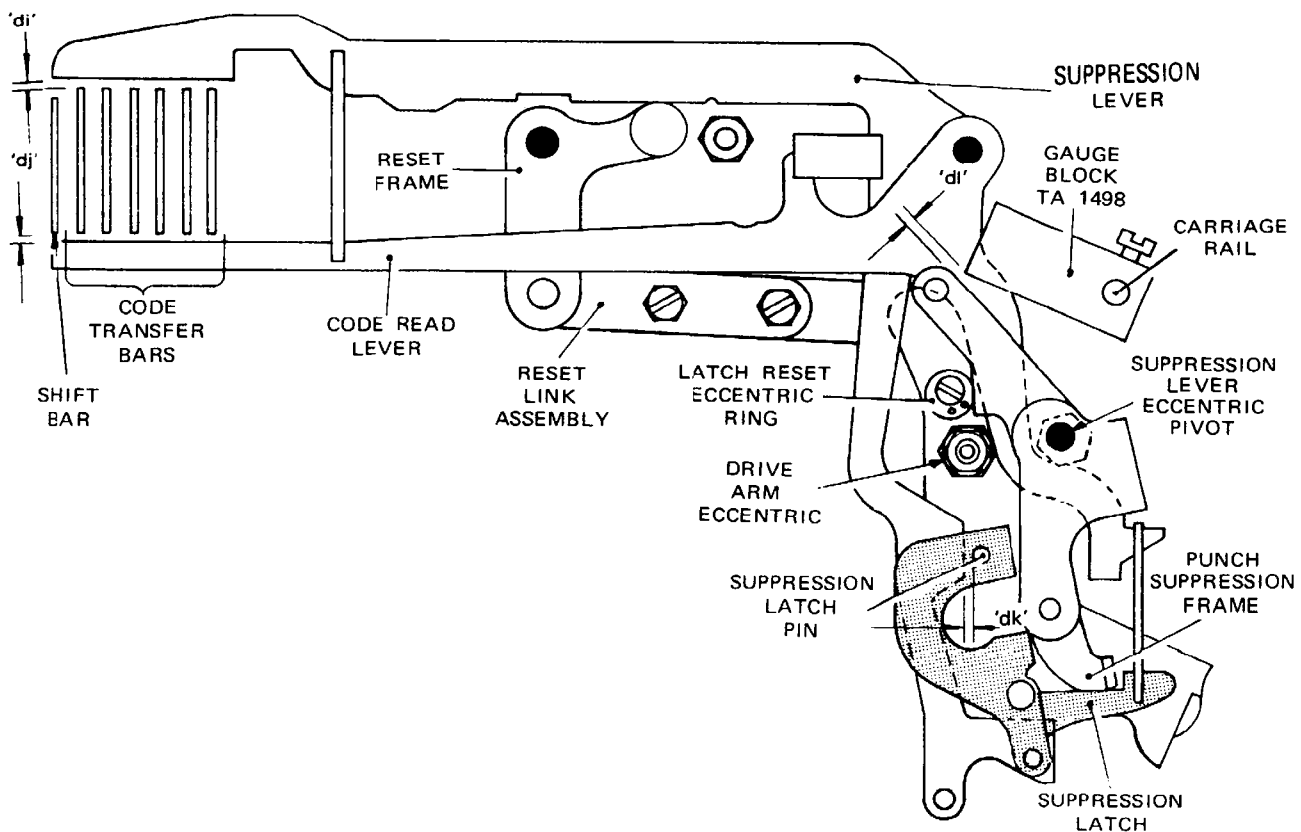

Fig. 4.125 SUPPRESSION MECHANISM
bar and the suppression levers (dimension 'di' of Fig. 4.125) is 0.015–0.025 inch.
- 134.1 Set the machine to the rest condition, and check that the gap between the code transfer bars and the code read lever (dimension 'dj' of Fig. 4.125) is 0.015–0.035 inch.
- 135.1 Select letter D or J and turn the machine until the suppression levers (Fig. 4.125) rest on the shift bar and, whilst holding the suppression latch pin, check that the gap between the pin and the suppression levers (dimension 'dk') is at least 0.004 inch.
- 135.2 Ensure that the punch suppression frame is latched by the suppression latch as shown in Fig. 4.125, select a character that operates the suppression mechanism, turn the machine by hand, and check that the suppression latch releases the punch suppression frame (and therefore that dimension 'dk' is not too large).
- 135.3 To adjust the gap, slacken the nut securing the suppression lever eccentric pivot and, ensuring the throw of the eccentric is toward the rear as shown in Fig. 4.125, set the eccentric for the correct gap (using special feeler gauge TA 1518 for the minimum gap) and secure the pivot.
- (b) fit gauge TA 1498 to the carriage rail (as shown in Fig. 4.125) so that it touches the tip of the punch suppression frame,
- 136.2 To adjust, slacken the screw securing the latch reset eccentric ring, whilst ensuring that the throw of the eccentric is downward (as shown in Fig. 4.125) set the eccentric to correct the movement, and secure the ring.